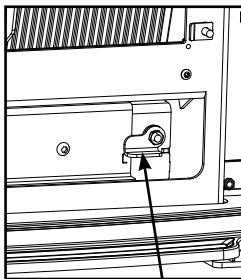

Figure 5.5
1. Remove cleanout plate assembly by pulling up on the latch located at the bottom right corner of firebox. Figure 5.5